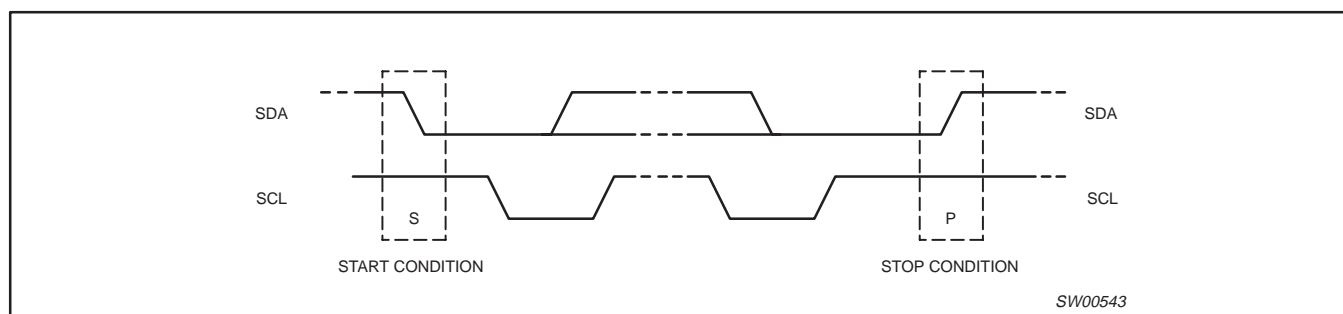

Figure 15. Definition of start and stop conditions
Both data and clock lines remain HIGH when the bus is not busy. A HIGH-to-LOW transition of the data line, while the clock is HIGH is defined as the Start condition (S). A LOW-to-HIGH transition of the data line while the clock is HIGH is defined as the Stop condition (P) (see Figure 15).